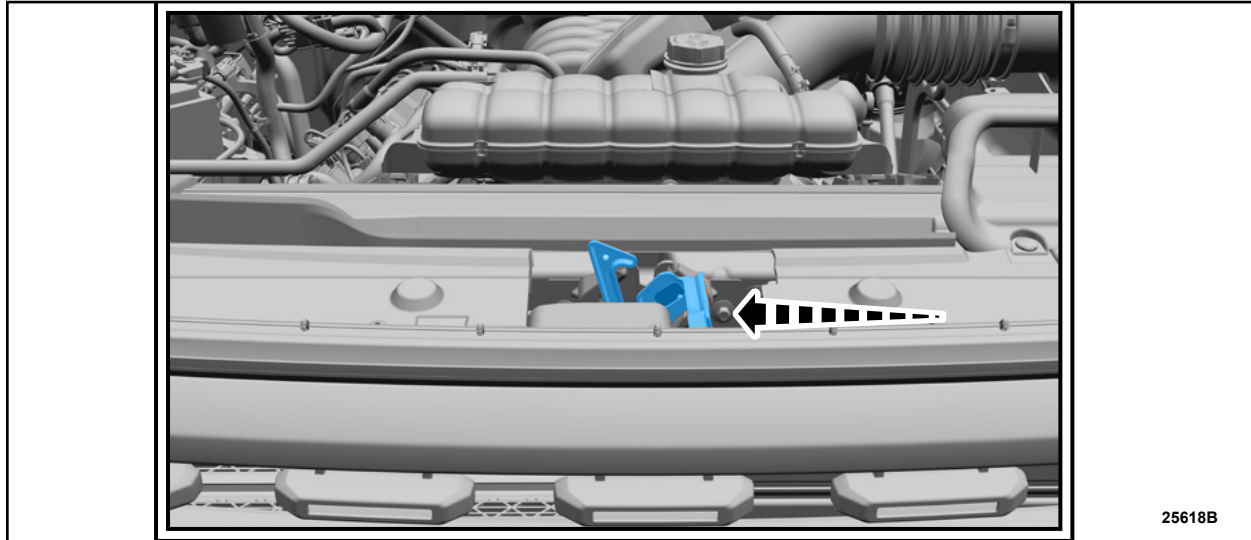

FIGURE 2
4. Open the hood by pressing the primary latch to the left, located under the hood. See Figure 2.